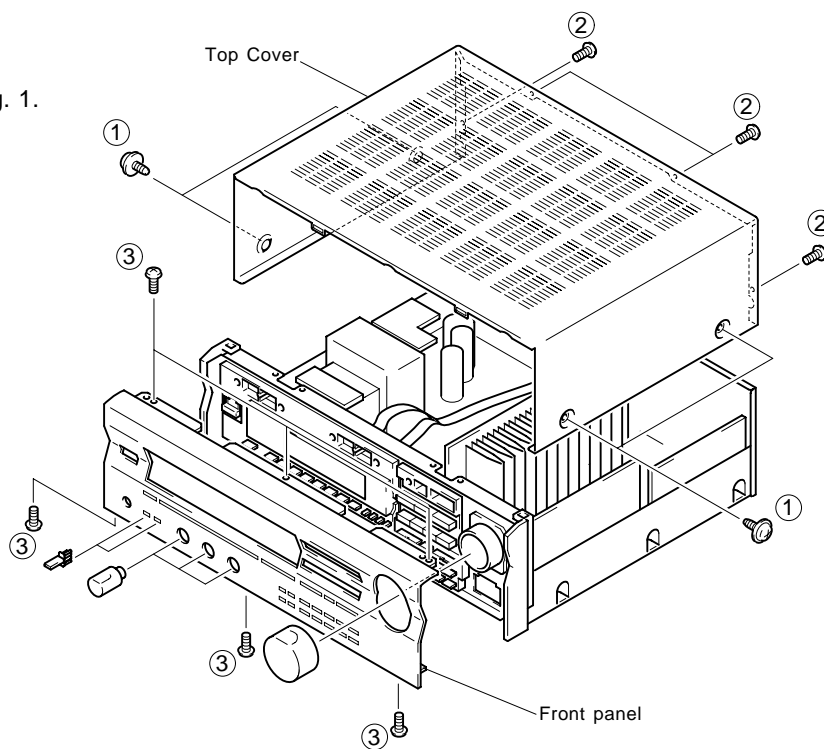

Fig. 1
a. Remove 4 screws ( ① ) and 4 screws ( ② ) in Fig. 1.
b. Remove 6 screws ( ③ ) in Fig. 1.